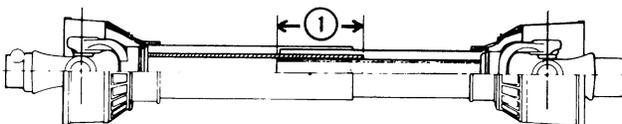

Figure 16
- Hold the driveline sections parallel to each other and check for a minimum of 5" overlap as shown at, (1), Figure 16. The overlap will be the distance between the two marks on the shields. If the driveline has less than minimum overlap, **DO NOT USE**. Recheck the mounting of the implement. Adjust the top link to assure the implement is level front to rear. Adjust the lower links to assure the implement is level right to left.